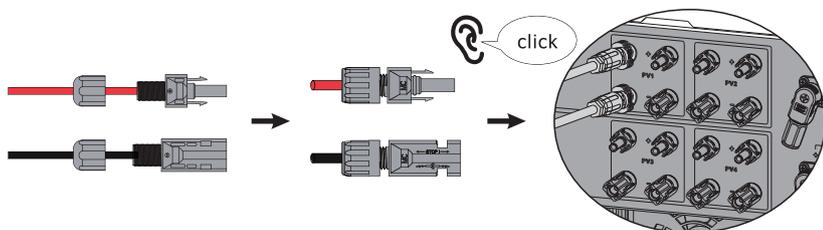

Figure 4.1-6 The PV plug is connected to the inverter
**Step4.** Screw the cap on and plug it onto inverter side. There will be a click sound if connectors are inserted correctly into PV plugs,as shown in Figure 4.1-6.